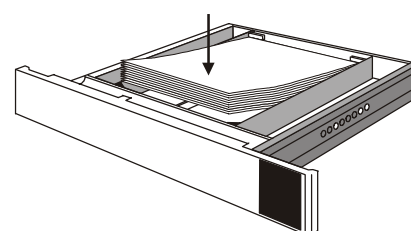

Fig. 13 Filling in Paper
- Insert approx. one third of the ream in the tray and ensure that all paper is lined up with the rear stop. Repeat two more times for the rest of the ream (Fig. 13).